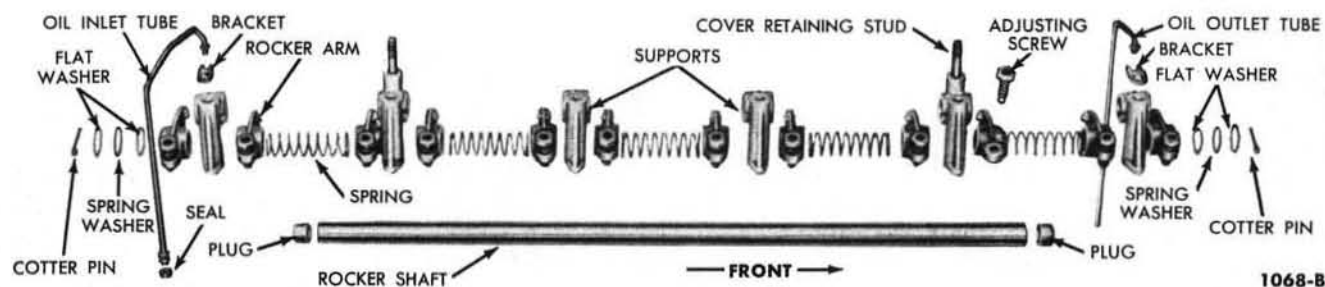

FIG. 17—Valve Rocker Arm Shaft Assembly
4. Install the rocker arms, supports, and springs (Fig. 17). Install the remaining flat washers with the spring washer between them, and install the cotter pin.